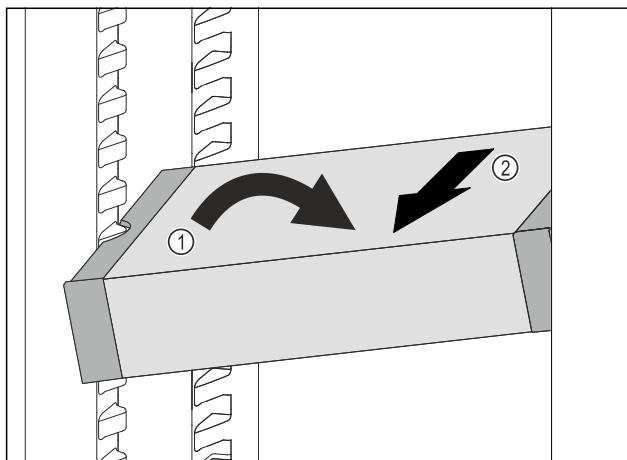

Fig. 136
- Fig. 136 (1)
- Take VarioSafe out to the front. Fig. 136 (2)